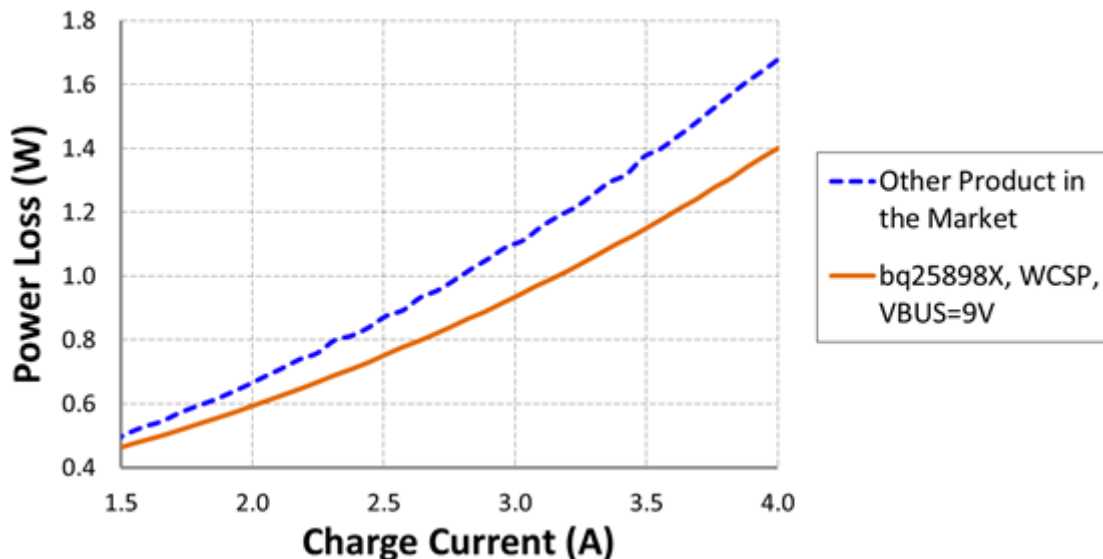

Figure 2. Power Loss of bq25898 in WCSP
A WCSP also reduces parasitic resistance, inductance and weight by eliminating the extra bond wires, lead frames and encapsulation found in other packages. The lowered resistance in the power-conversion integrated circuit (IC) results in higher efficiency. As Figure 2 shows, the power loss is lower in bq25898x WCSP than in a competing IC family, while also providing 13% more charging current for the same 1W power-loss budget. This is very significant for maintaining the same equipment case temperature at a higher charging current, as discussed in the blog post, “How 1.2% more efficiency can help you charge faster and cooler.”